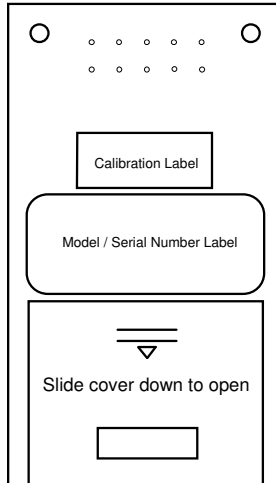

Figure 3
- 2) Slide open the battery compartment cover located on the back of the radiometer (Figure 3) and carefully lift out the battery.